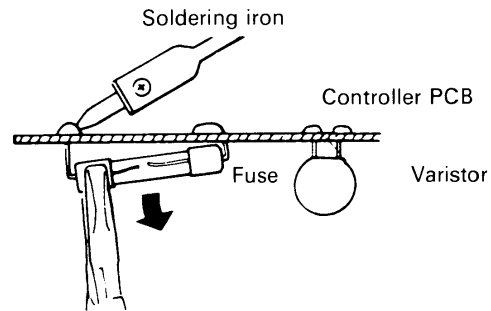

Fig. 11
- 2) Pull out the fuse at the metal clasp by a pair of pliers while heating the soldered leads on the back side of the controller PCB with a soldering iron (30W or 60W). Fig. 11.